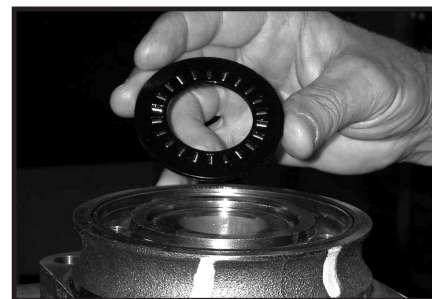

Figure 17
13. Remove thrust bearing (11) from top of coupling shaft. Inspect for wear, brinelling, corrosion and a full complement of retained rollers. SEE FIGURE 17.